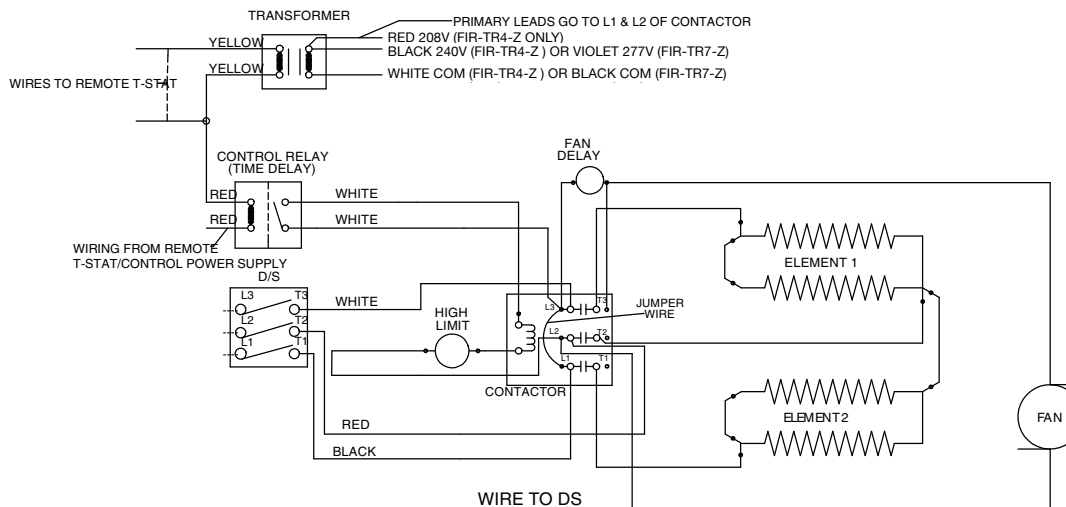

Figure 10
3. To wire the transformer, relay, and thermostat, refer to the wiring diagram, Figure 10, and proceed as follows:
h. Splice together the second YELLOW wire from the transformer with the COM wire and the RED wire via a wire nut. (Refer to Figure 10).